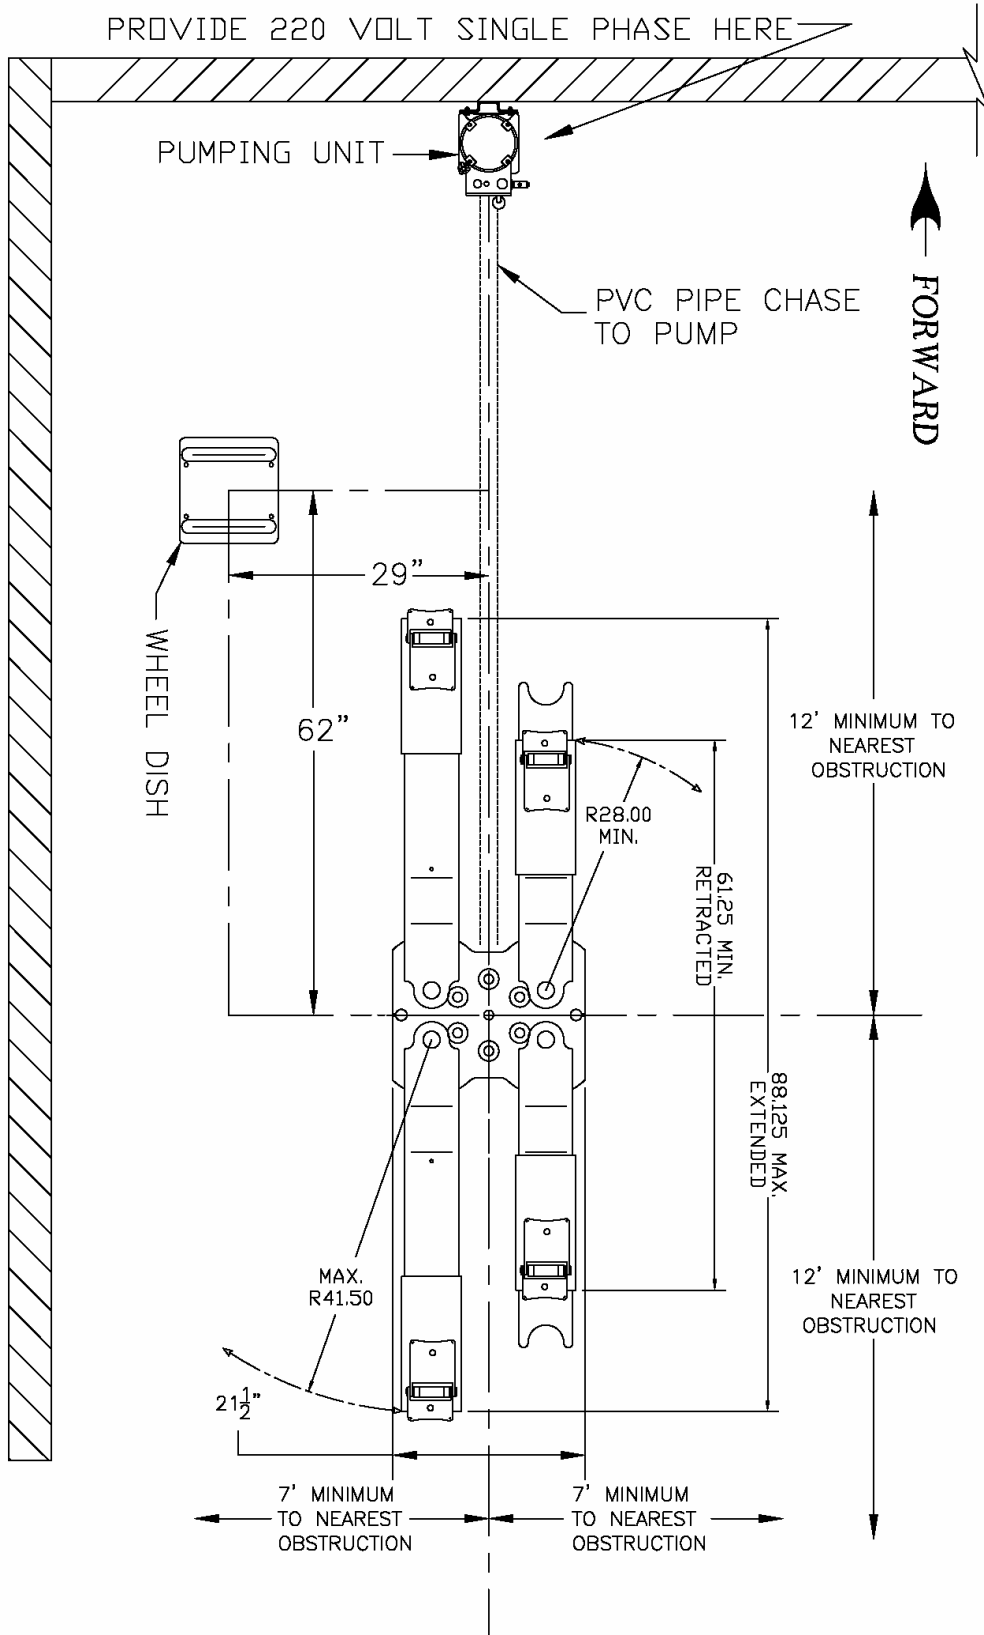

Figure 1 – Bay Layout
A minimum of 12 feet front and rear and 7 feet to each side of cylinder center is recommended. A minimum of 70 inches between the lowest ceiling height obstruction and the roofline of the highest vehicle to be raised. 12 ft. of ceiling height is sufficient for passenger cars. (See Figure 1).
22. Locate wheel spotting plate to location desired for vehicles to be lifted. (See Figure 1 for a general shop bay layout.)